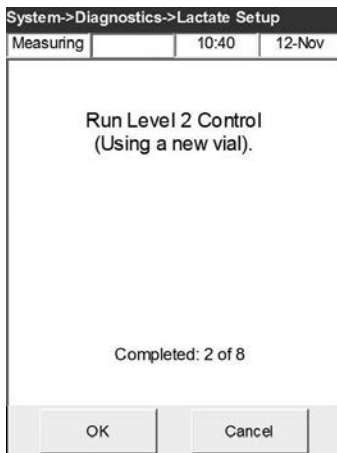

Fig. 7-39 Run Controls
- After each level of OPTI Check is run, you will return to this screen (Fig. 7-39). You will not receive a results screen or printout until the setup procedure is complete. Continue to run the OPTI check with the same lot of cassettes and OPTI check until prompted. You may run from 5 to 8 OPTI checks.